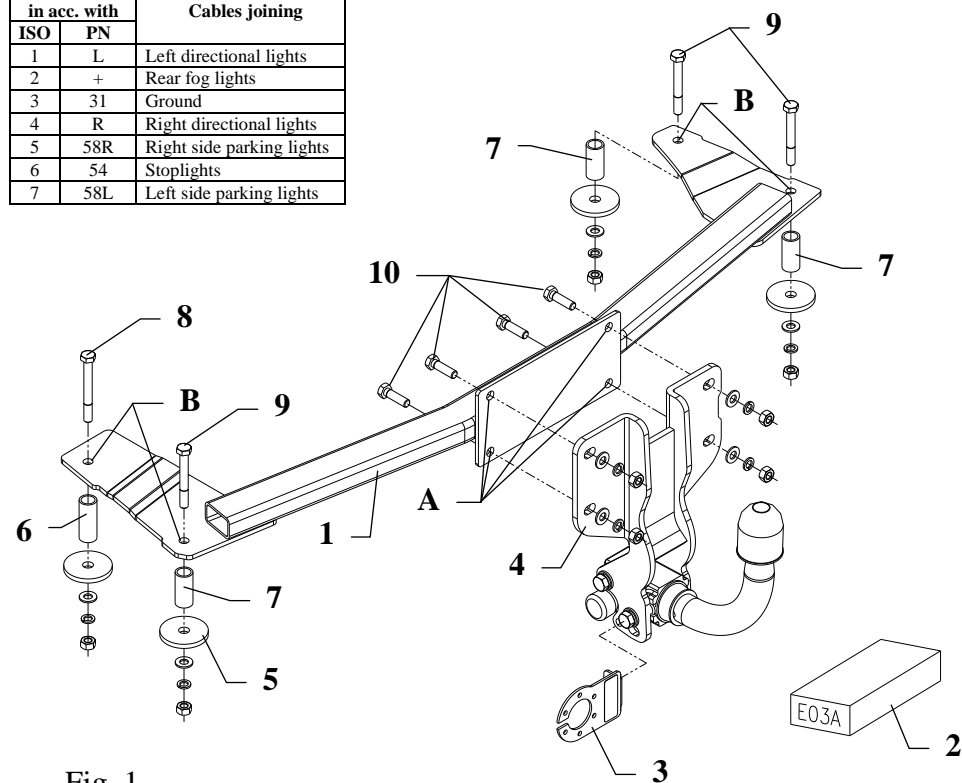

Fig. 1
4. Position the main bar of the towing hitch (pos. 1) in the trunk and fix it with the bracket (pos. 4) through the 4 drilled holes (pos. A) - use bolts M10x35mm (pos. 10).
5. Position the sleeves (pos. 6 and 7) properly at the bottom of the car, then fix it through the holes (pos. B) using suitable bolts M10x80mm (pos. 9) and M10x90mm (pos. 8) together with large washers (pos. 5) – see fig. 1.
6. Fix body of the automat and place tow-ball according to supplied instruction. Note! Remember to place socket plate (pos. 3) as shown on the drawing 1.